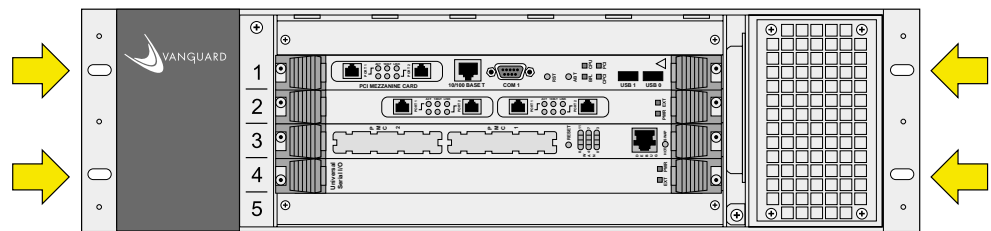
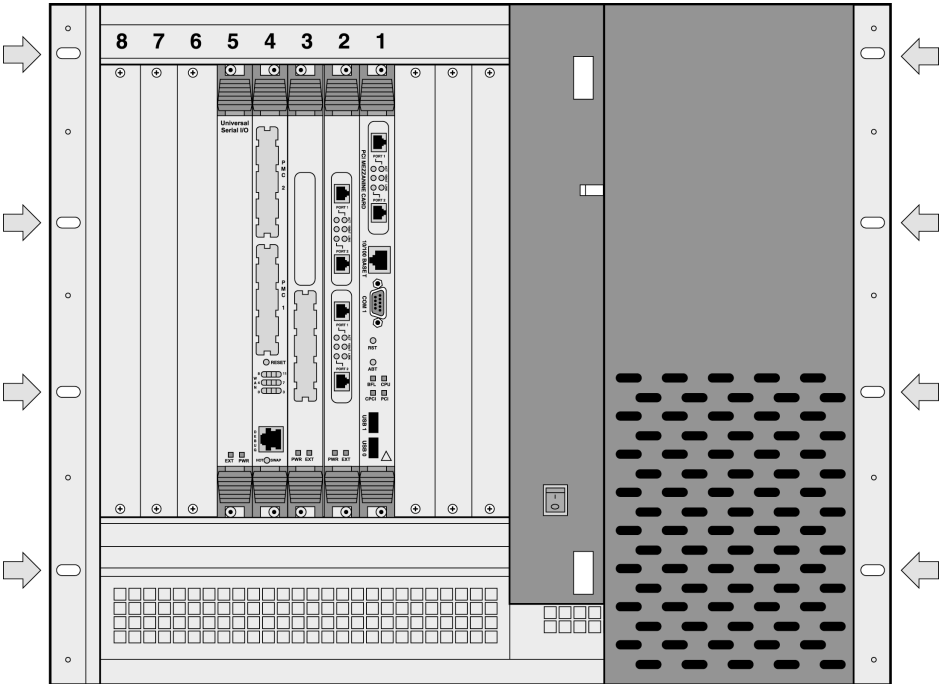
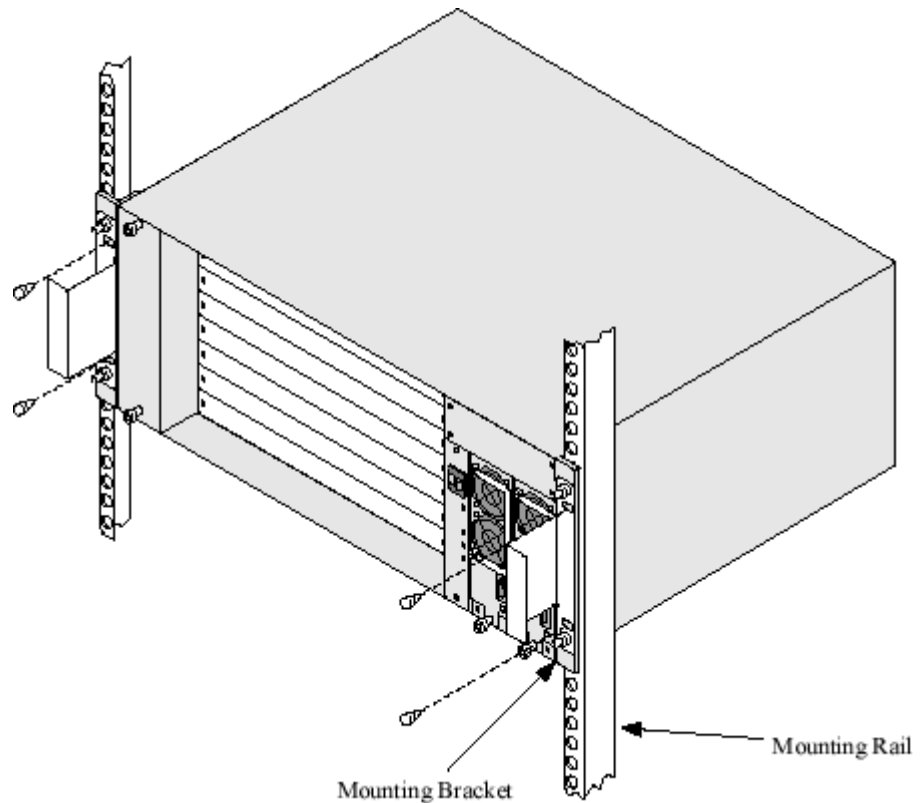

Figure 3-10. Rack Mount Hardware Locations - Vanguard 7310
Figure 3-11. Rack-Mount Locations - Vanguard 7330 Version 1
Figure 3-12. Rack Mount Hardware Locations - Vanguard 7310 and 7330 Version 2
Figure 3-10 shows the mounting hardware locations on the flanges of the Vanguard 7310 Version 1. For the locations on the Vanguard 7330 Version 1, refer to Figure 3-11, For the locations on the Vanguard 7310 and 7330 Version 1, refer to Figure 3-12. Use standard rack-mounting hardware (not supplied) to secure the chassis in the rack.
- Secure the Vanguard 7310 Version 1 with mounting hardware at four locations, two on each side of the front panel (Figure 3-10)
- Secure the Vanguard 7330 Version 1 at eight locations, four on each side of the front panel (Figure 3-11)
- Secure the Vanguard 7310 and 7330 Version 2 with mounting hardware at four locations, two on each side of the front panel (Figure 3-12)